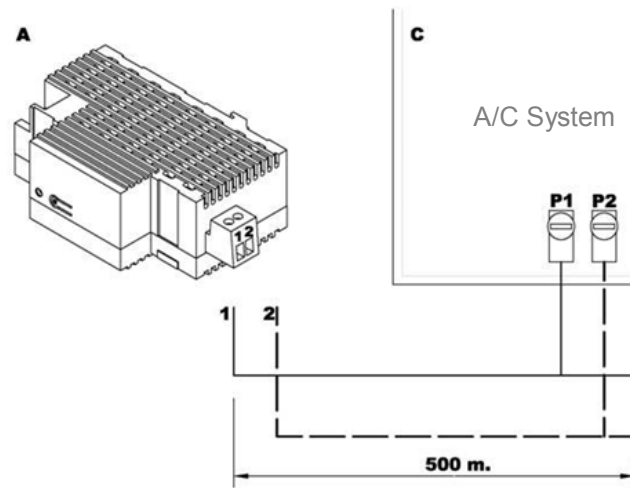

Figure 3. Connecting KLIC-DI to the P1/P2 bus (master mode).
KLIC-DI connects to the KNX bus via the corresponding built-in terminals (1). On the other hand, this device is connected to the internal PCB board of the A/C unit (P1/P2 connectors), using a 2-wire cable. See Figure 3.